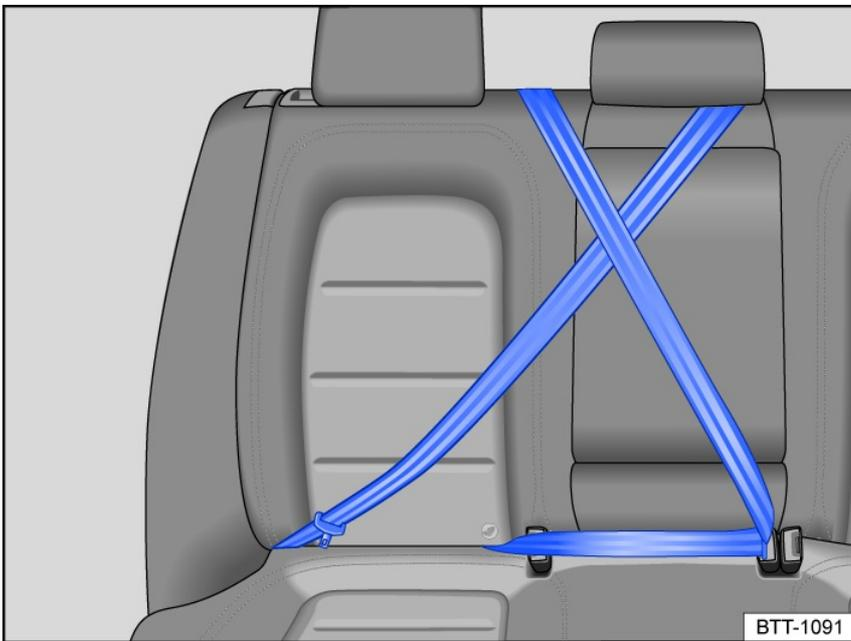

Fig. 44 Keep any safety belts that are not being used away from children.
- Position the safety belt around the head restraint in the center seating position *fig. 44*.
- Fasten the safety belt *fig. 44*.